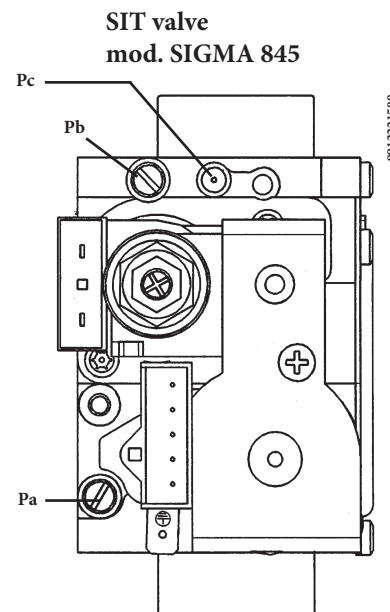
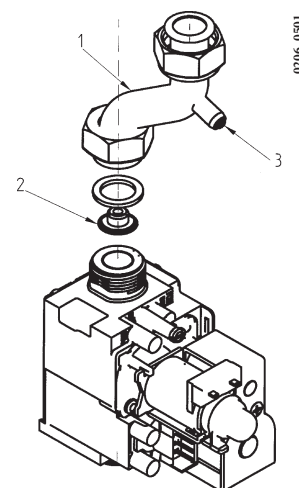

Figure 12a
Figure 12b (models 240/40 i - 240/60 i - 240/40 Fi and 240/60 Fi)
- remove the gas inlet hose (1 of Figure 12b);
- replace the diaphragm nozzle mounted on the gas valve (2);
- connect the positive pressure test point of a differential pressure gauge (possibly water-operated) to the gas valve pressure test point (Pb) (figure 12a). For models 240 i/Fi use the pressure tap (3) in the gas inlet hose (figure 12b). Only for models with sealed chambers, connect the negative pressure test point of the pressure gauge to a "T" fitting in order to join the boiler adjustment outlet, the gas valve adjustment outlet (Pc) and the pressure gauge. (The same measurement can be made by connecting the pressure gauge to the pressure test point (Pb) after removing the front panel of the sealed chamber);
- make sure that the dynamic inlet pressure of the boiler, measured at the gas valve pressure test point (Pa) (Figure 12a) is correct (30 mbar for butane, 37 mbar for propane or 20 mbar for natural gas).